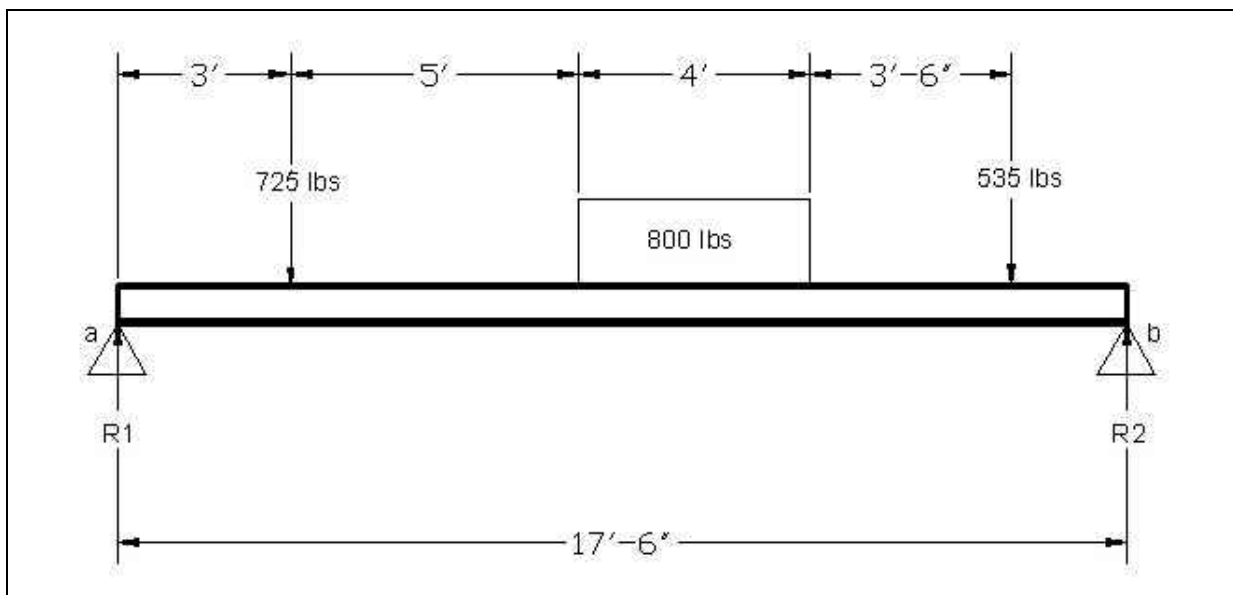

Figure 9.10 – Draw All Three Diagrams; Free Body, Shear Force and Bending Moment
Now that we know the methods for producing Free Body diagrams and we have the expertise to layout the Shear Force and Bending Moment graphs, we can create a drawing file and do all three together. Analyze the data given in figure 9.10 to find the points of interest in this truss.
*** World Class CAD Challenge 10-15 * - Draw a Free Body, Shear Force and Bending Moment Diagram of the truss in Figure 9.10 and indicate the points of interest in 30 minutes. Save the file as Beam Analysis.dwg.**